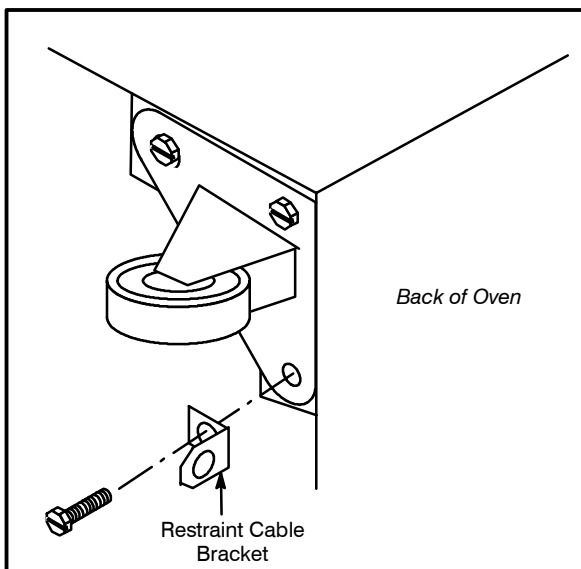

Figure 3
1. Mount the supplied bracket to the leg bolt below the gas inlet. See Figure 3.